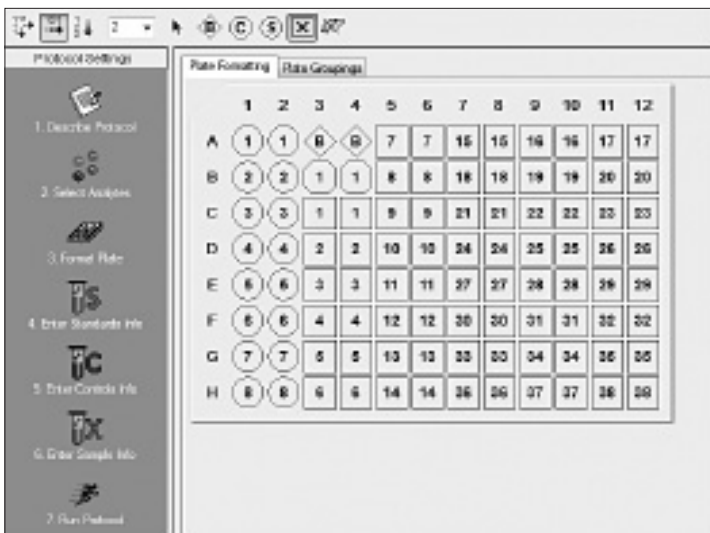

Fig. 4. Plate formatting.
3. Click **Format Plate** and format the plate according to the plate layout created in section 1 (Plan Plate Layout). To modify the plate layout, follow the steps below (see Figure 4).